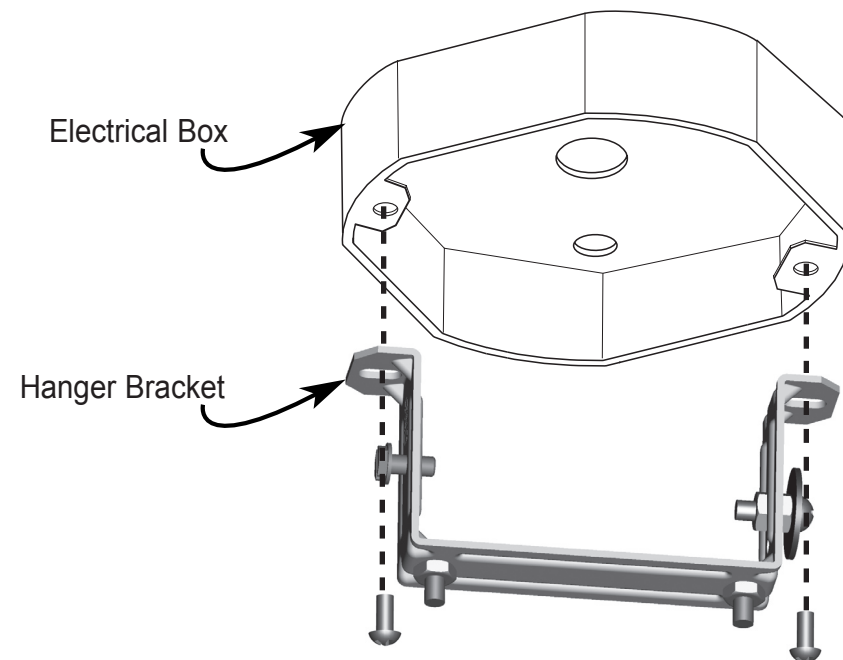

Figure 5 - Attach Hanger to Electrical Box
- 2) Attach the Hanger Bracket assembly to the electrical box as shown in Figure 5.